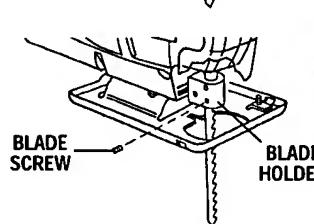

FIG. 6
**1. For Manual Scrolling and non scrolling use,** insert the blade to full depth, with blade in the center position of blade holder directly under the plunger as shown (Fig. 6).